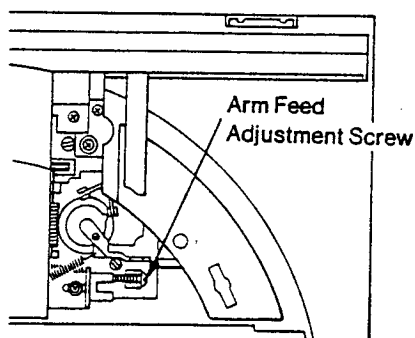

Fig. 7
4. Turn the arm feed adjustment screw with a screwdriver through the hole on the right side of the cabinet, so that the arm rises straight up. (Fig. 7)